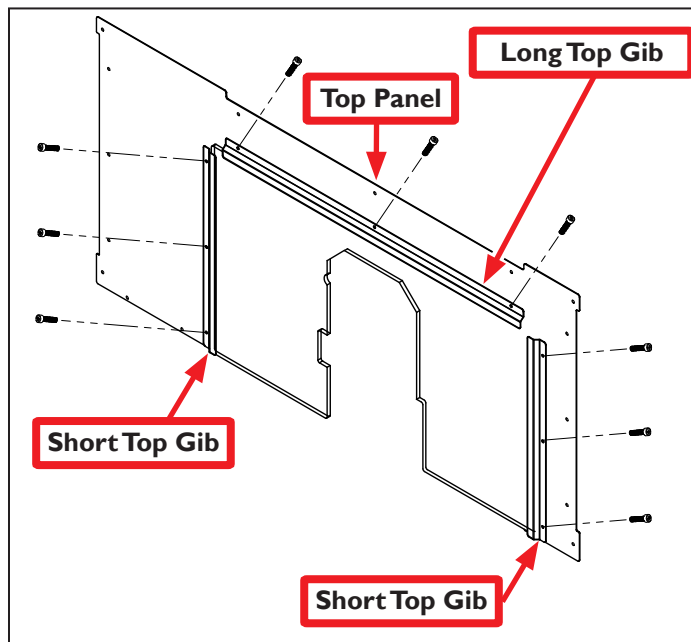

Figure 12
16. Using three 10-32 x 3/8" Phillips Screws for each, loosely fasten two Short Top Gibs to sides of Top Panel (see **Figure 12**).
17. Using three 10-32 x 3/8" Phillips Screws, loosely fasten Long Top Gib to Top Panel (see **Figure 12**).